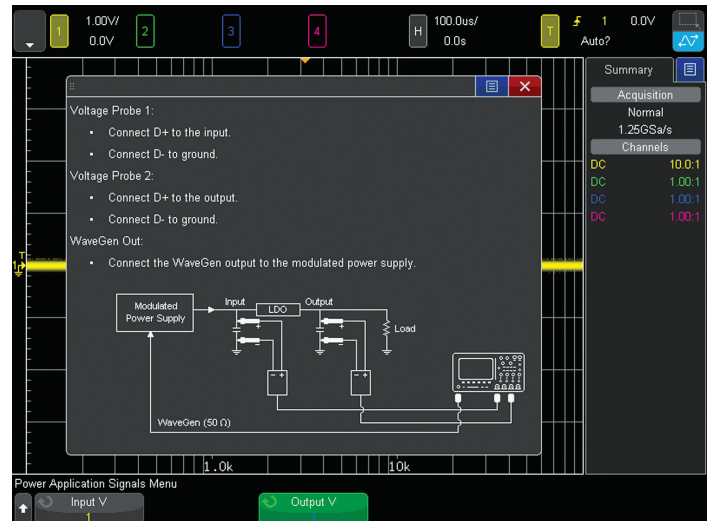

Figure 36: PSRR connections diagram in the Signals menu
4. Connect the WaveGen's output (Gen Out 1 only if using a Keysight 4000 X-Series scope) to the DC input source of the DUT via a summing network as illustrated in the on-screen connections diagram shown in Figure 36.